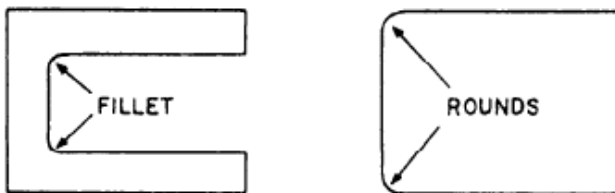

Fig. 2-4 Fillets and rounds
- Rounds or radii are edges or outside corners that have been rounded to prevent chipping and to avoid sharp cutting edges. Figure 2-4 shows fillets and rounds.